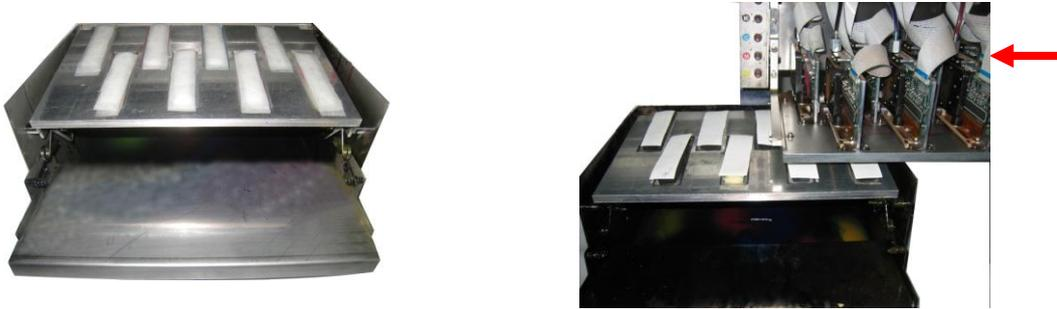

Figure5-5
5) Place the cap in the waste tank, and move the carriage back to home. (Figure 5-5)